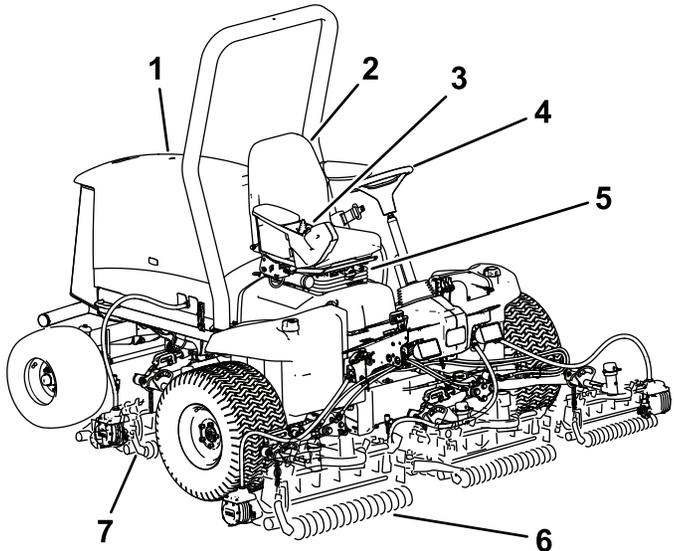

**Figure 37**
1. Use rubbing alcohol and a clean rag to clean the surface of warning decal, and allow the decal to dry (Figure 37).